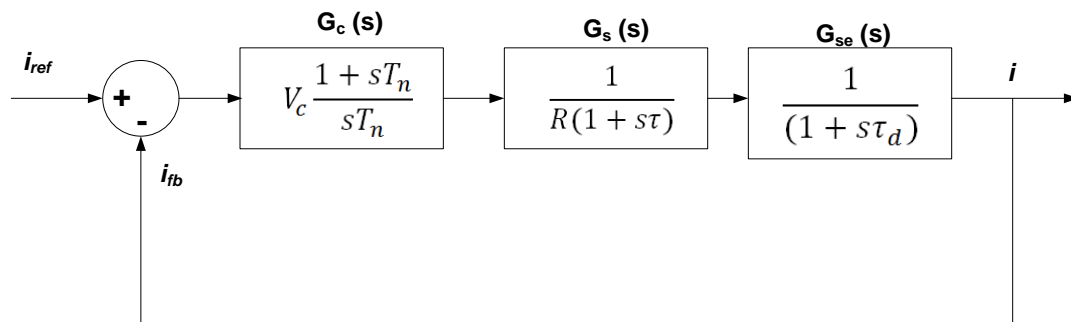

Fig 3.2 Control structure of the current controller of a BLDC motor
- 3.3** The simplified control structure for the current control of the BLDC motor is shown in Fig. 3.2. The controller, plant and the sensor transfer functions are $G_c(s)$, $G_s(s)$ and $G_{se}(s)$ respectively with $R = 1 \Omega$, $\tau = 0.5 \text{ ms}$, $\tau_d = 100 \mu\text{s}$. **(7 P)**